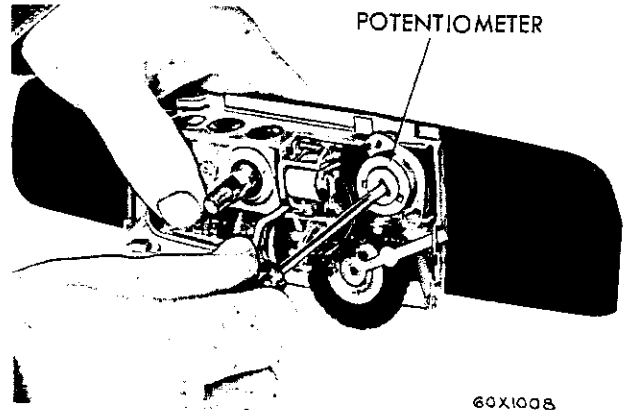

Fig. 27—Adjusting the Potentiometer
(1) Measure the spring load on the mirror chassis using a spring scale. Attach the scale to the chassis at the photo cell opening. Hold the assembly firmly and measure the spring load. The spring load should be at least 8 ounces. If less than 8 ounces the tension can be increased by shortening the two return springs at the lower corner of the chassis assembly. **The small coil spring located on top of the relay along side the potentiometer should not be tampered with since this spring is pre-set to specific dimensions.**
(2) If the sensitivity was incorrect adjust potentiometer by turning clockwise to increase, counter-clockwise to decrease, (Fig. 27).